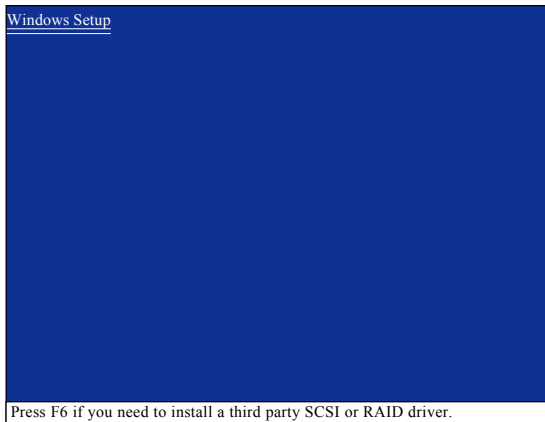

Figure 12
Step 1: Restart your system to boot from the Windows 2000/XP Setup disk and press F6 as soon as you see the "Press F6 if you need to install a 3rd party SCSI or RAID driver" message (Figure 12). After pressing F6, there will be a few moments of some files being loaded before you see the next screen.